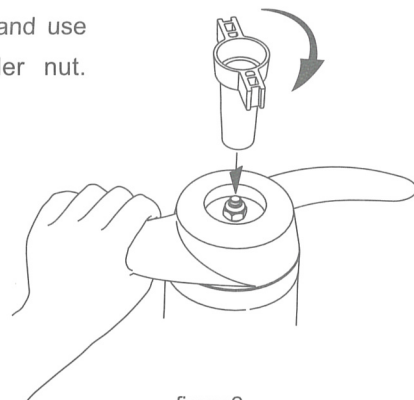

figure2
2. Hold the propeller to prevent it from revolving and use the propeller wrench to tighten the propeller nut. (figure.2)